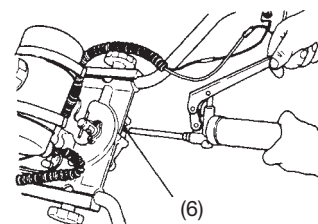

Fig. 11
- 1) Lubricate gear case by pumping multi-purpose grease through grease fitting every 50 hours of operation. (Fig. 11)